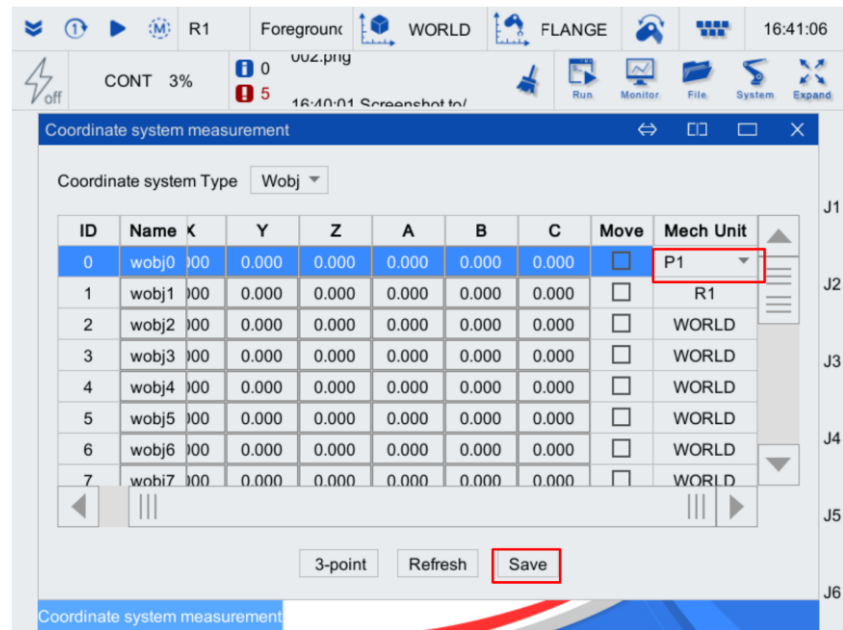

Figure 5-12 Workpiece coordinate system calibration
- Step 1. Enter the [Coordinate System Measurement] interface as shown in Figure 5-12 through the [Run/Coordinate System Measurement] path, and select the "Workpiece Coordinate System" option from the [Coordinate System Type].